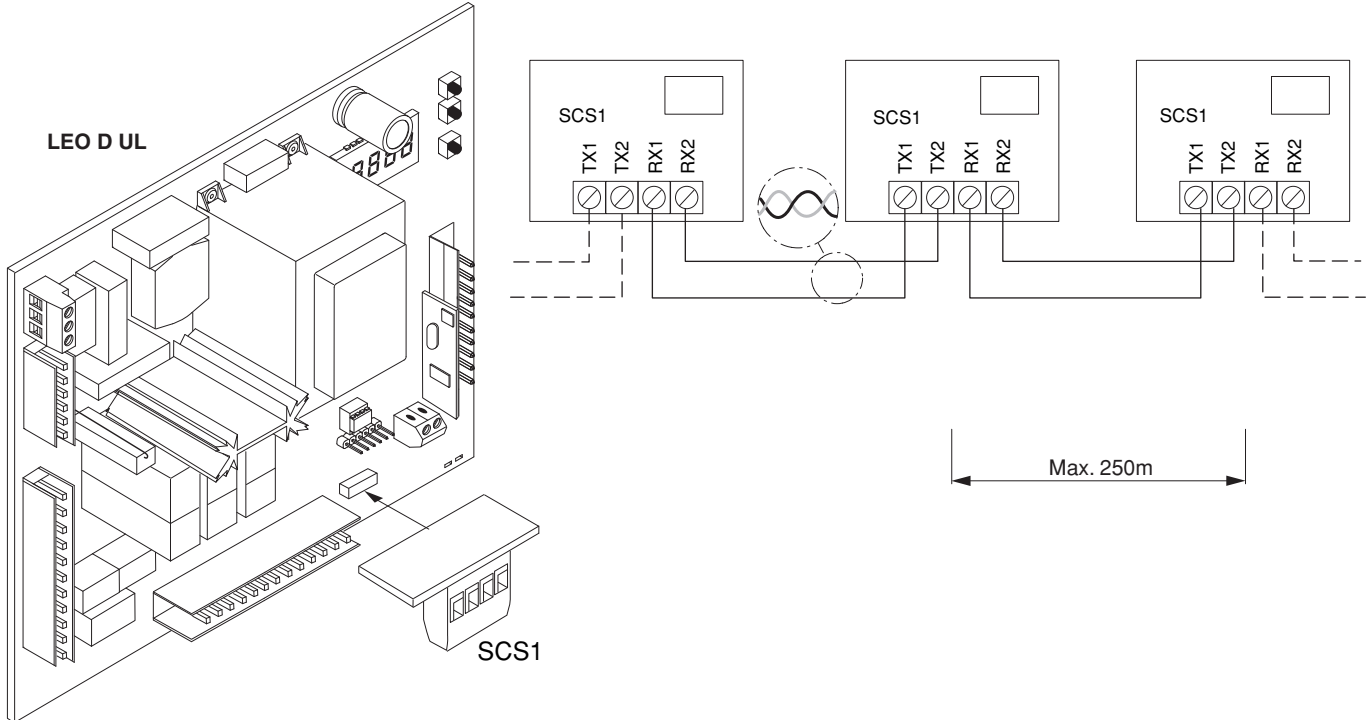

Fig. 6
11.1) Opposite sliding leaves (Fig.6)**Only with 2.7 or later microprocessor version.**